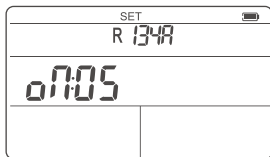

FIG. 10 Automatic Shutdown and Opening Interface
3. Press **◀** button or **▶** button briefly to set the automatic shutdown time (5, 10, 15, 30, or 60 min)[FIG.10].